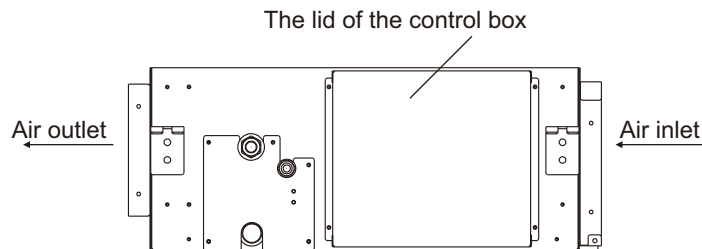

Fig.6.1 Remove the screws on the control box
- When clamping the wiring, use the included clamping material as shown in the Fig.6.1 to prevent external pressure being exerted on the wiring connections and clamp firmly.
- (1) As shown in Fig. 6.1, remove the screws on the control box.
- (2) Connect the power cord and ground wire to the main terminal.
- (3) Connect the remote control wire to the subsidiary terminal box.
- (4) Connect the power supply of the indoor and outdoor units to the main terminal.
- (5) Tie the wire in the control box with the clamp tightly.
- (6) After completing the wiring, seal the wiring hole with the sealing material (with the lid) to prevent the condensation and insects entering the control box.